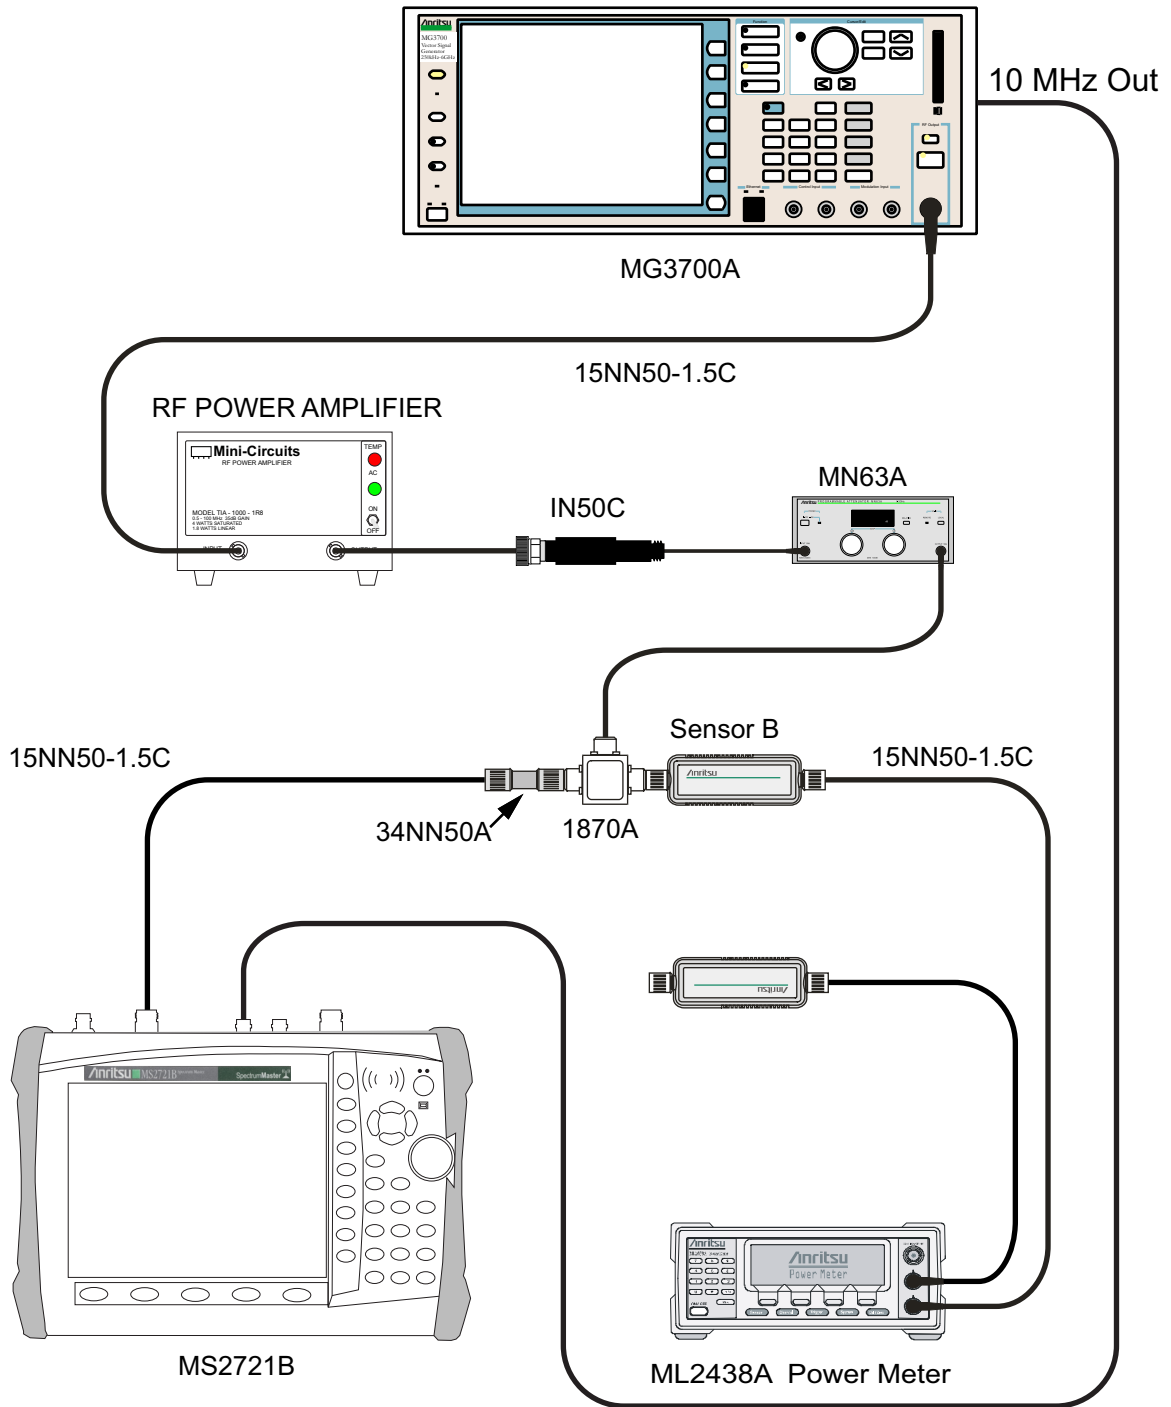

Figure 3-10. Level Accuracy Verification Setup – Sensor B Only
26. Remove Sensor A from the Power Splitter and then connect the Power Splitter to the MS2721B Spectrum Analyzer RF In port with an N(m)-to-N(m) Adapter as shown in Figure 3-10, “Level Accuracy Verification Setup – Sensor B Only” on page 3-27.
59. Remove Sensor A from the Power Splitter and then connect the Power Splitter to the MS2721B Spectrum Analyzer RF In port with an N(m)-to-N(m) Adapter, as shown in Figure 3-10, “Level Accuracy Verification Setup – Sensor B Only” on page 3-27.
13. Remove Sensor A from the splitter and connect the MS2721B RF In port to the open end of the splitter using an adapter as shown in Figure 3-10, “Level Accuracy Verification Setup – Sensor B Only” on page 3-27.